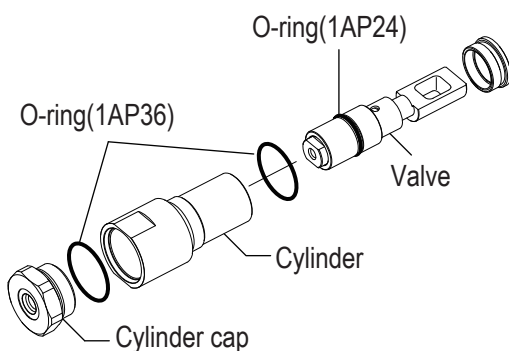

Fig.18
- c. Remove the O-rings. (Fig. 18)